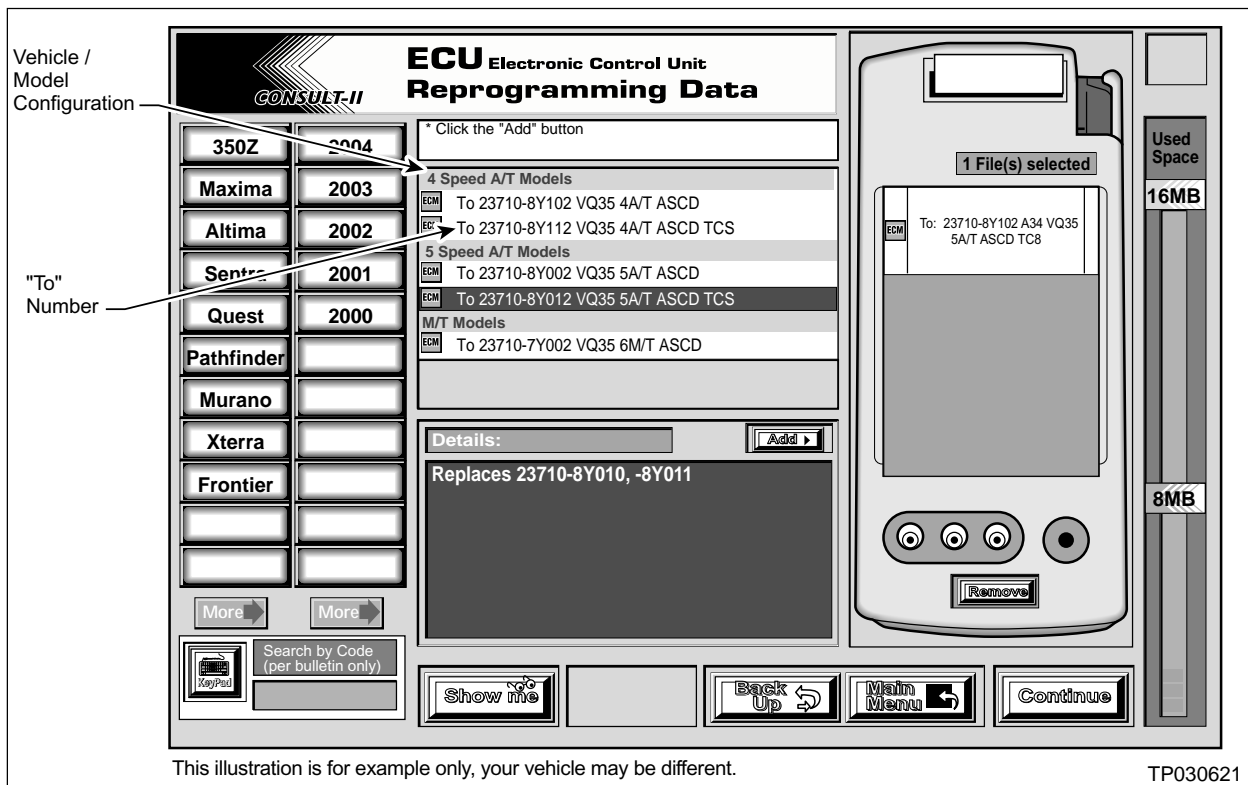

Figure 1
2. In ASIST, select **CONSULT Utilities** >> **ECM/TCM Data**. Then choose Model and Model Year (see Figure 1).
3. Look for ECM Data Updates (listed by ECM P/Ns and vehicle configuration) in the top, center display panel of the ASIST screen (see Figure 1).
4. Select the "configuration" on the screen for the vehicle you're working on. Then confirm that your ECM is listed in the "Replaces 23710-XXXXX, -XXXXX, etc" section in the lower, center "Details" panel of the ASIST screen (see Figure 1).